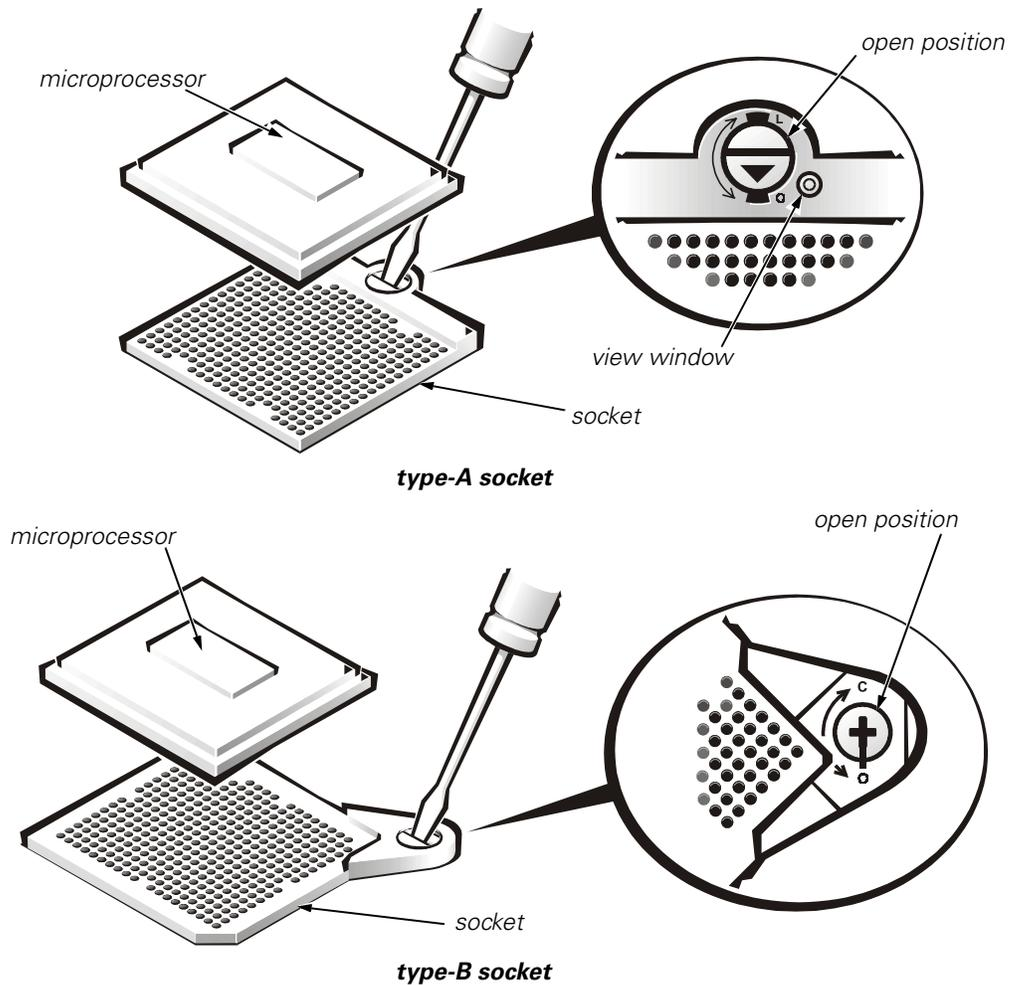

Figure 20. Microprocessor Removal
14. Remove the microprocessor. The microprocessor socket is either type A or type B (see Figure 20).
If the socket is type A, use a flat-blade screwdriver to turn the cam 180 degrees counterclockwise. When the cam is in the open position, the triangular-shaped pointer on the cam points toward the "O" (open position), and a view window, on the lower right-hand side of the cam, displays a full circle (see Figure 20, type-A socket). Grasp the edges of the microprocessor to lift it out of the socket.
If the socket is type B, use a Phillips-head or a flat-blade screwdriver to turn the cam 180 degrees counterclockwise. When the cam is in the open position, a tab on the cam points toward the "O" (open position) (see Figure 20, type-B socket). Grasp the edges of the microprocessor to lift it out of the socket.
To install a microprocessor in a type-A socket, place the microprocessor in the socket and use a flat-blade screwdriver to turn the triangular-shaped pointer on the cam clockwise 180 degrees toward the "L" (locked position). The view window displays a half circle when the cam is in the locked position (see Figure 20, type-A socket).
To install a microprocessor in a type-B socket, place the microprocessor in the socket and use a Phillips-head or flat-blade screwdriver to turn the cam clockwise 180 degrees so that the tab on the cam points toward the "C" (closed position) (see Figure 20, type-B socket).